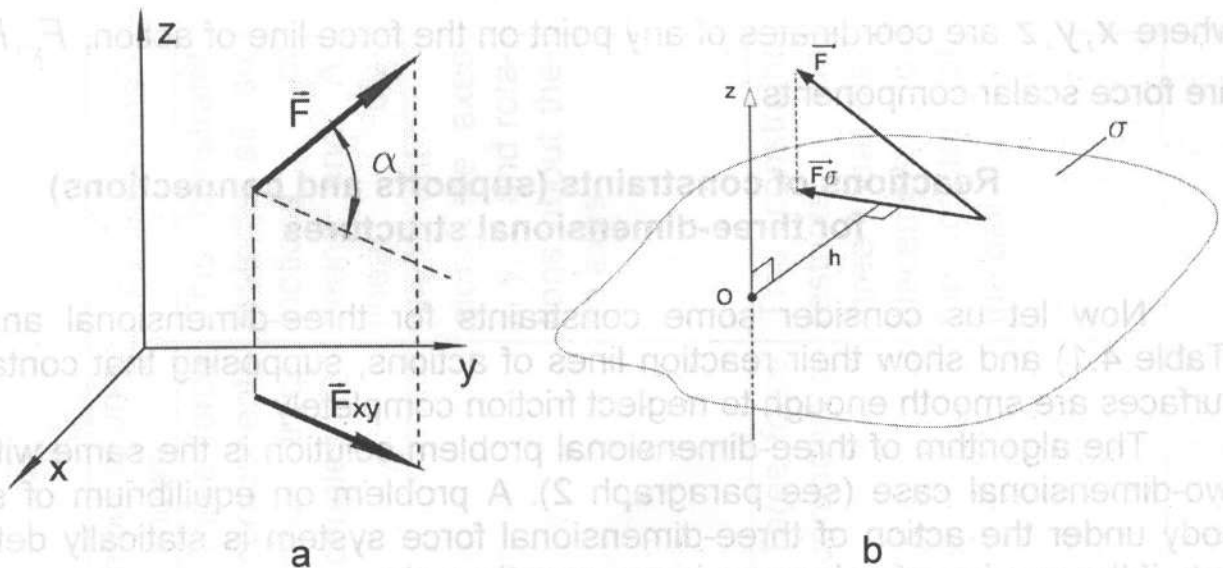

Fig. 4.1
**Projection of force  $\vec{F}$**  on a plane (Fig. 4.1, a) is **vector** quantity that can be defined as:
1. project the force into a plane that is perpendicular to the axis, as result we get the vector  $\vec{F}_\sigma$  (Fig. 4.1, b);
2. determine the arm  $h$  (see Fig. 4.1, b) of the projection  $\vec{F}_\sigma$  with respect to the point of axis and plane intersection, the arm  $h$  is the shortest distance between the projection line of action and the point;